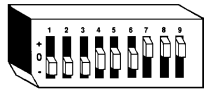

FIGURE 2
- B. If the transmitter doesn't activate the operator, check the coding switches on both the transmitter and receiver to assure an "exact" match. (See Fig. 2 & 3). This may necessitate a reprogramming of a Quik Code Classic transmitter to match the receiver coding switches.
Models 9931, 8832, 8833: The coding switch in these models consist of eight or nine small switches, each of which can be placed in any of three different positions. (+, 0, -). See **Fig. 2**. Using a small screwdriver, set both the transmitter and receiver coding switches identically. (Your private code setting).